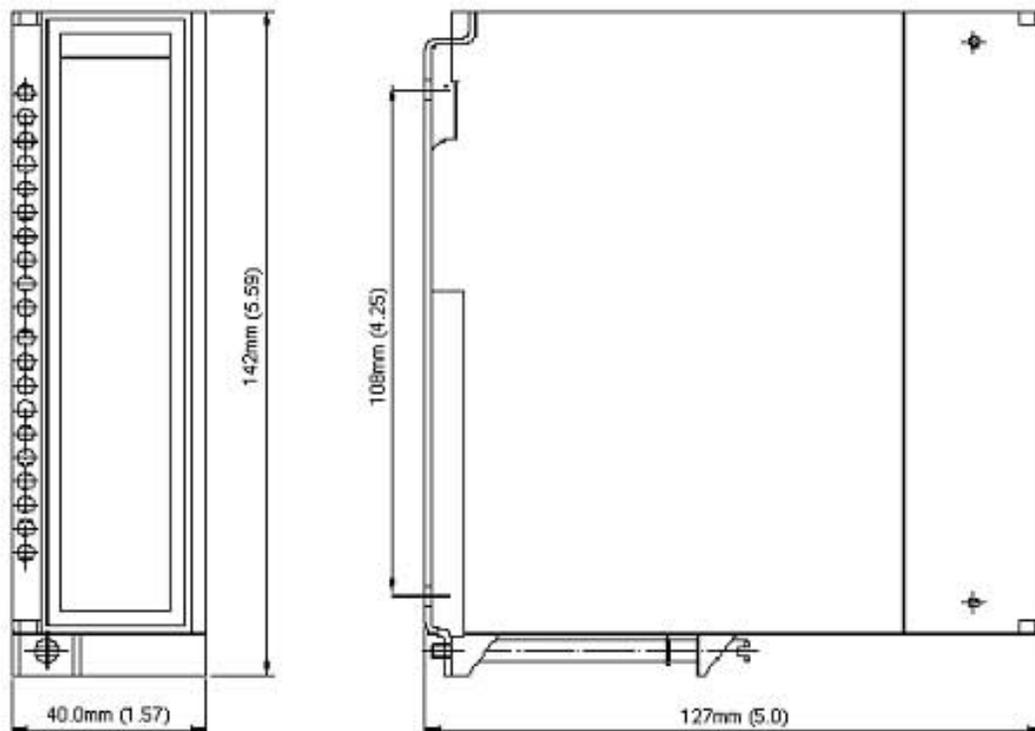

Fig. 3- ICS2.0P Dimensional Drawing.
- Dimensions	142 x 40 x 127 mm, (5.59 x 1.57 x 5.00"), max (see Figure 3).